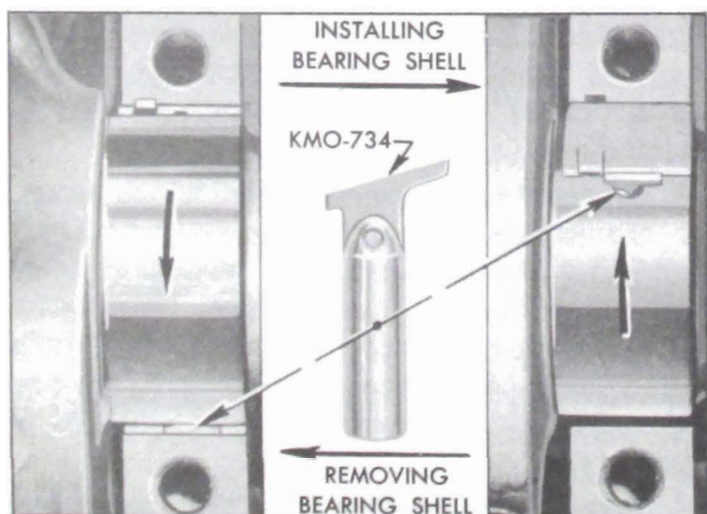

Figure 2-30—Removing and Installing Crankshaft Bearing Upper Shell
2. Remove upper bearing shell by inserting Bearing Shell Remover and Installer KMO-734 in oil hole in crankshaft, then slowly turning crankshaft so that the tool rotates the shell out of place by pushing against the end without the tang. See figure 2-30. CAUTION: *When turning crankshaft with rear bearing cap removed hold oil seal to prevent it from rotating out of position in crankcase.*